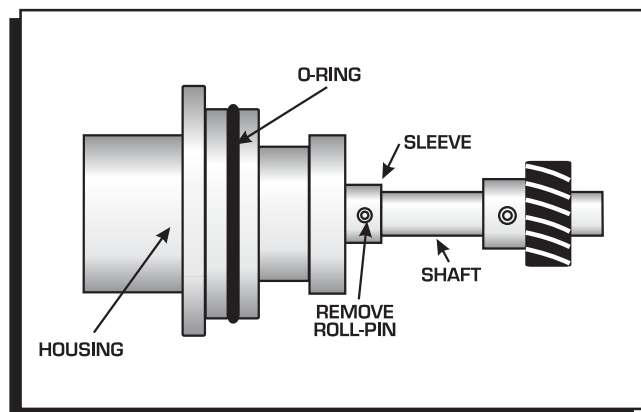

Figure 6 Removing the Retaining Sleeve.
3. Remove the roll-pin from the shaft and slide the retaining sleeve down. It should not be necessary to remove the gear (Figure 6).